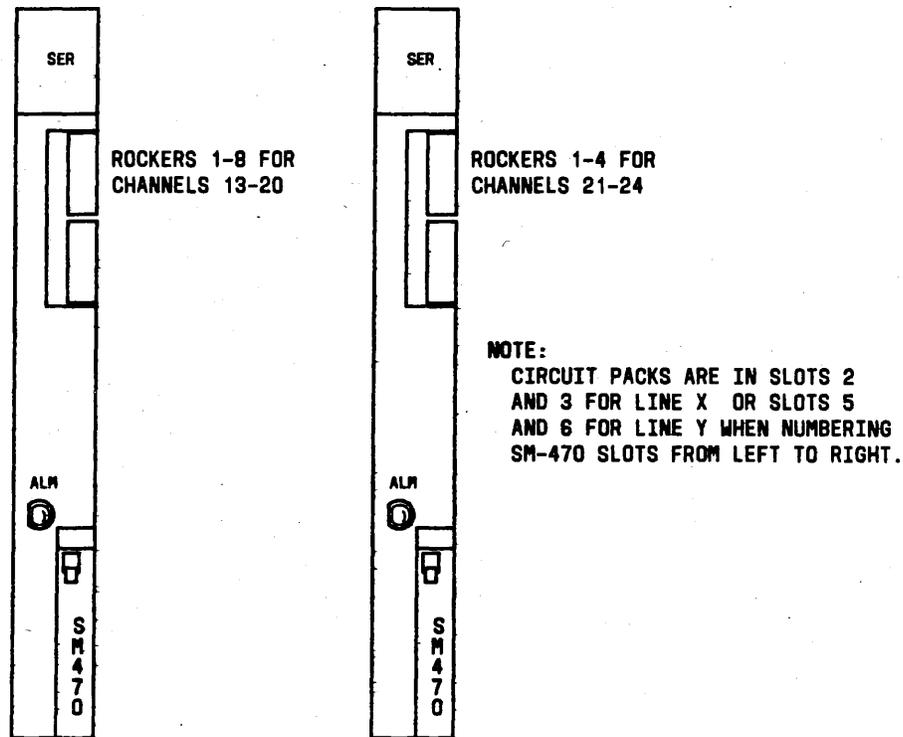

Fig. 20—32-MS Tail for Channels 13 Through 24
- To provide echo canceling for channels 13 through 24, specify circuit packs SM470 be installed in slots 2 and 3 for line x or slots 5 and 6 for line y. Figure 20 shows which rockers apply to which channels.